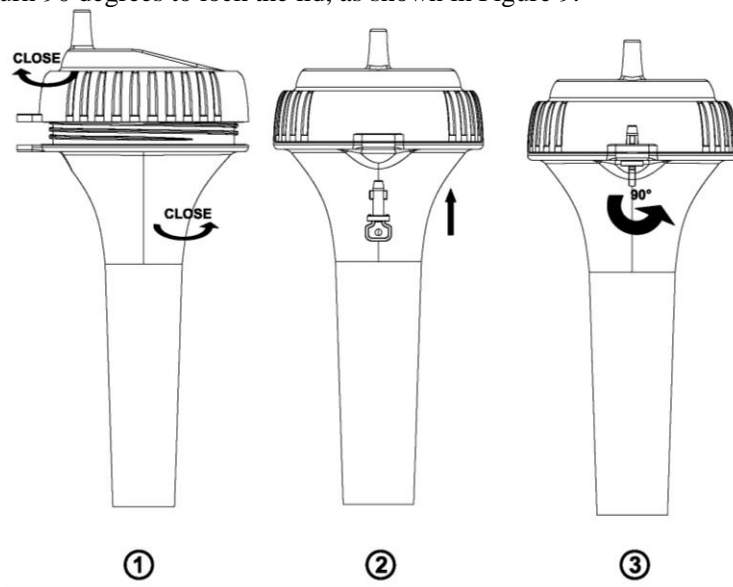

Figure 9
7. To close the lid, (1) Twist the lid until it is firmly locked and the key is aligned. (2) Insert the key and turn 90 degrees to lock the lid, as shown in Figure 9.